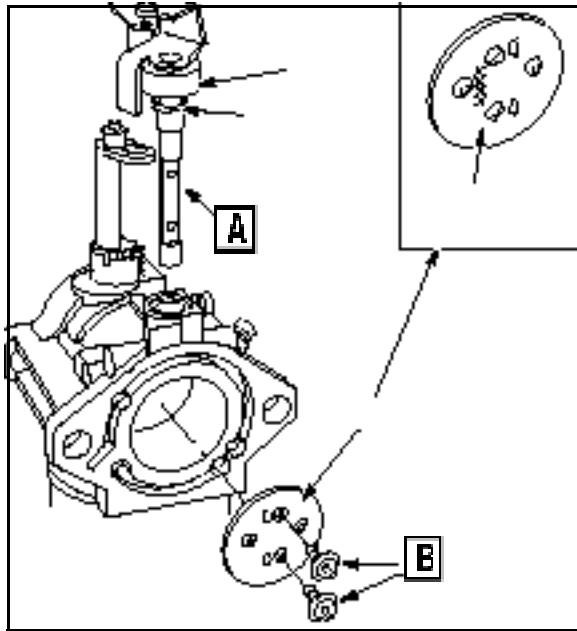

Fig. 124
6. Rotate throttle shaft (A) and lever closed.
7. Remove throttle plate screws ([B] Fig. 124).